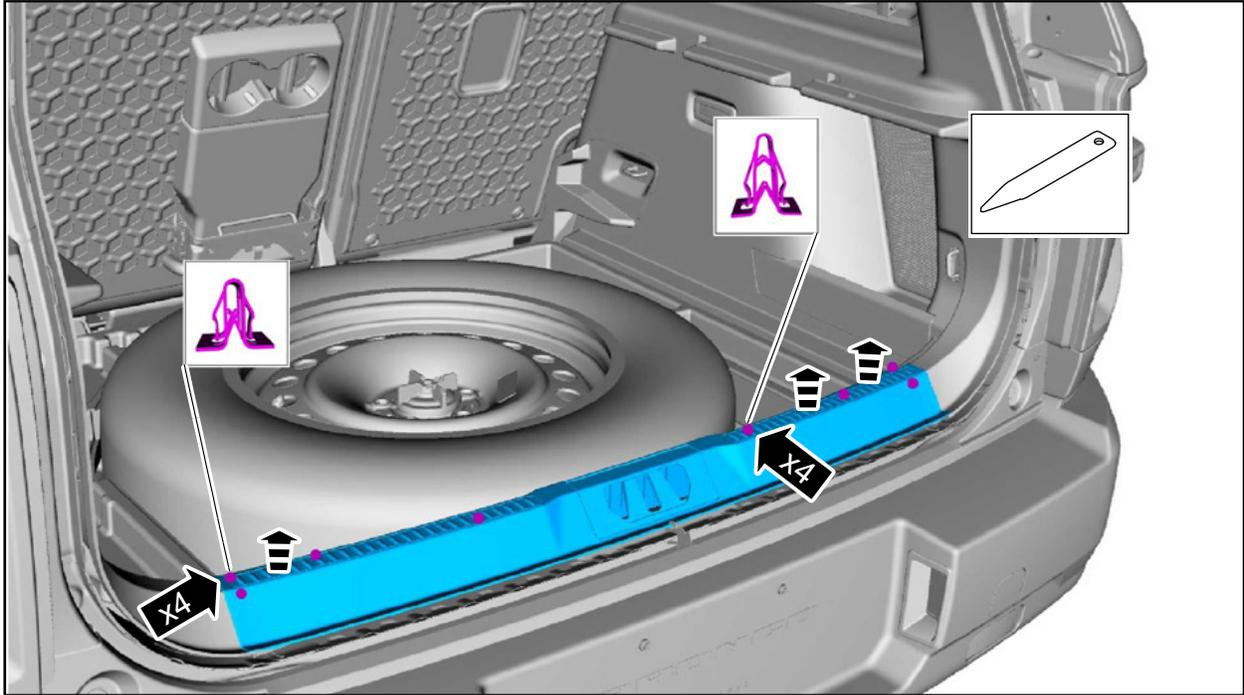

FIGURE 18
18. Release the clips and remove the loadspace scuff plate trim panel. See Figure 18.